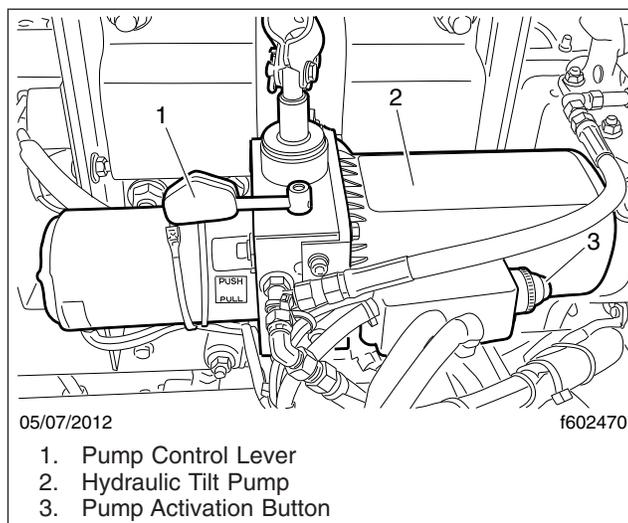

Fig. 27, Cab Tilt Pump
6. Move the pump control lever to the TILT position. See fig. 27.